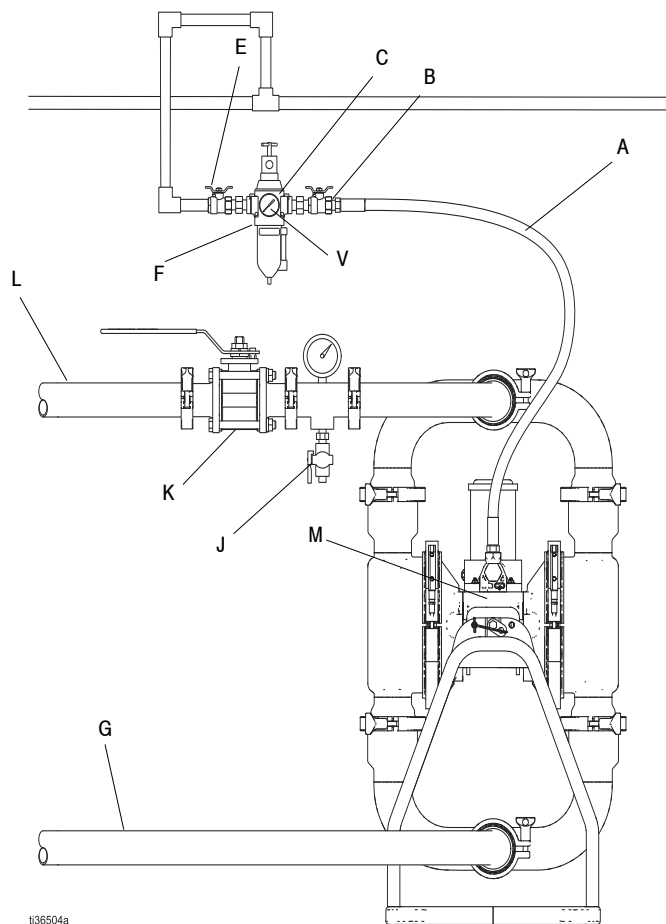

FIG. 2: Typical Floor-Mount Installation
- A typical installation is shown in FIG. 2. It is only a guide for selecting and installing system components. Contact your Graco distributor for assistance in planning a system to suit your needs.
A bleed-type master air valve (B) is required in the system to relieve air trapped between this valve and the pump. Trapped air can cause the pump to cycle unexpectedly, which could result in serious injury, including splashing in the eyes or on the skin. See FIG. 2.
1. Install the air line accessories as shown in FIG. 2. Verify that the air line supplying the accessories is grounded.
- a. Install an air regulator (C) and air pressure gauge (V) to control the fluid pressure. The fluid outlet pressure will be the same as the setting of the air regulator.
- b. Locate one bleed-type master air valve (B) close to the pump and use it to relieve trapped air. Locate the other master air valve (E) upstream from all air line accessories and use it to isolate them during cleaning and repair.
- c. The air line filter (F) removes harmful dirt and moisture from the compressed air supply.
2. Install a conductive, grounded, flexible air supply line (A) between the accessories and the 3/4 npt(f) pump air inlet (M).
2. Install a fluid drain valve (J) close to the pump fluid outlet. See FIG. 2.